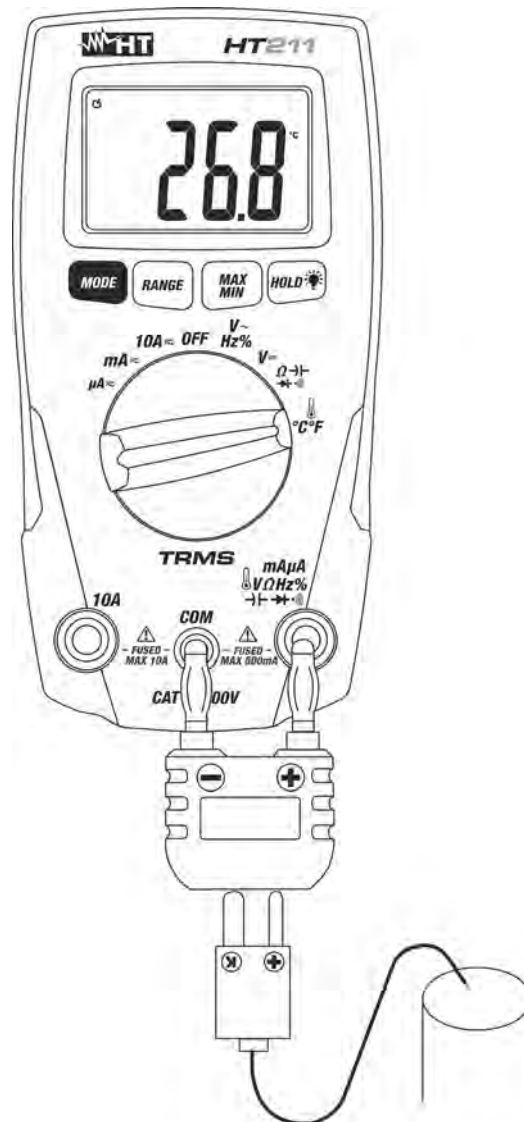

Fig. 8: Using the instrument for Temperature measurement
3. Insert the standard adapter accessory into $\text{mA}\mu\text{A V}\Omega\text{Hz}\% \rightarrow \leftarrow \rightarrow \leftarrow \rightarrow$ jack (+ polarity), and **COM** jack (- polarity) (see Fig. 8)